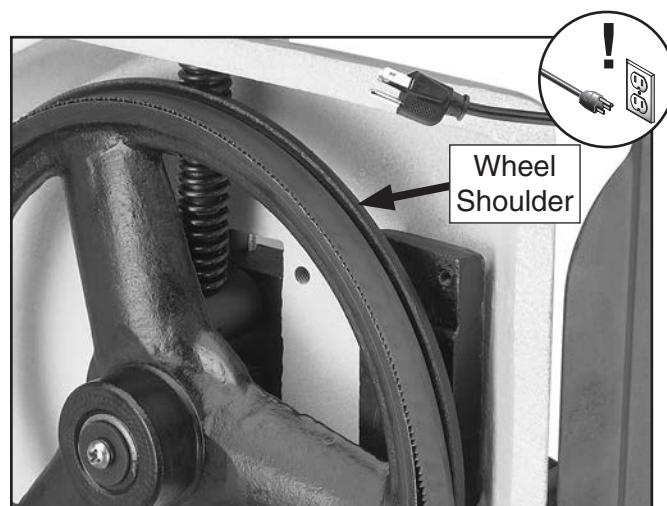

Figure 49. Example of blade positioned against wheel shoulder.
9. When blade is around both wheels, adjust position so back of blade is against wheel shoulder (see **Figure 49**).